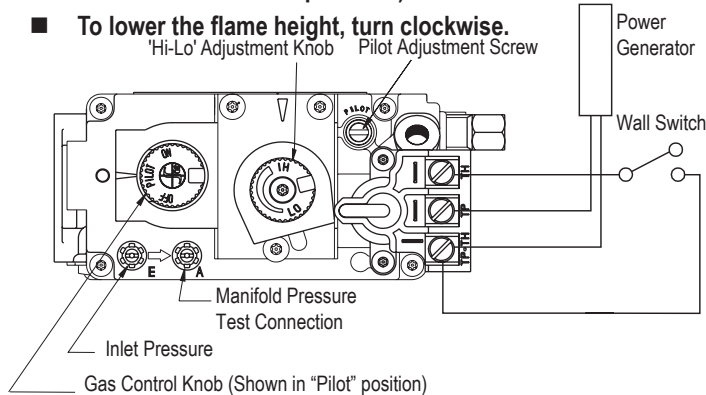

Figure 28. 'Hi-Lo' Adjustment on the SIT Nova 820 gas valve,
The H*38DF*ST is equipped with an adjustable burner, allowing you to raise or lower the flames. To adjust the flames, locate the black knob marked 'Hi-Lo', in the centre of the gas control valve (See Figure 28).
1. Locate Pilot Adjustment Screw. (See figure 28 or 29.)